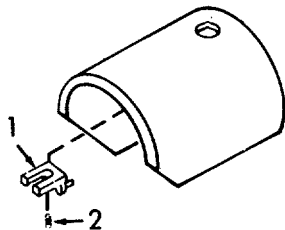

Figure 6-99. Latch Guard and Latch, Assembly.
- (1) Inspect hardware for damage.
- (2) Inspect latch guard and latch for damage.
- (3) Inspect the bobbin case and rotary-sewing hook assembly for damage.
- (4) Inspect hook shaft gear for damage.
- (5) Inspect the hook shaft for damage.
- (6) Inspect front and rear hook shaft collars for damage.
- (7) Inspect bushing and yoke bushing for damage.
f. *Assembly (Refer to Figure 6-99).*